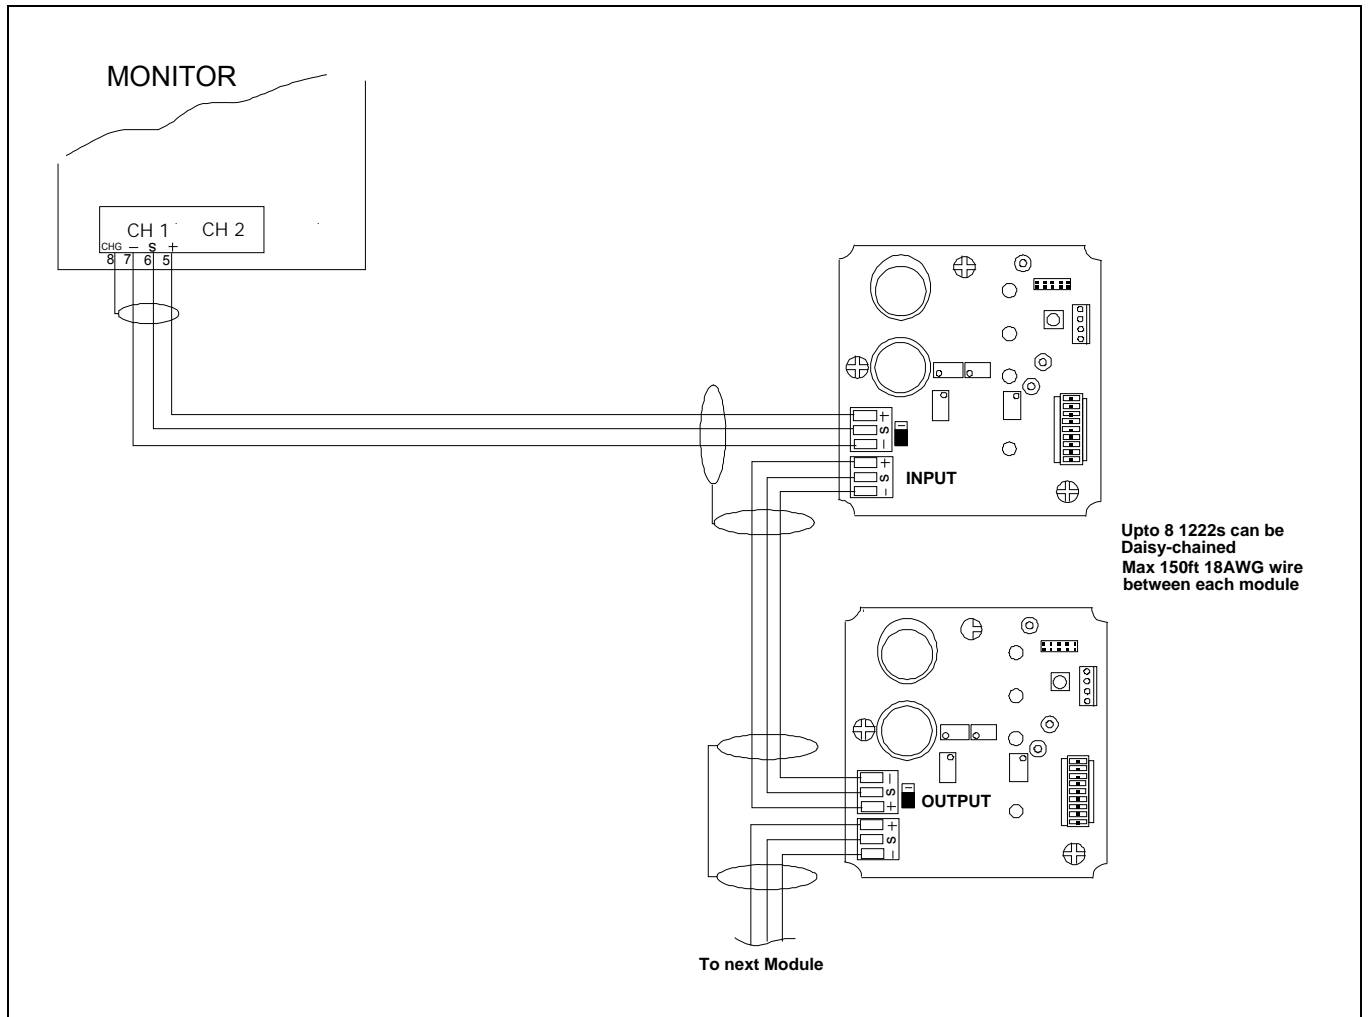
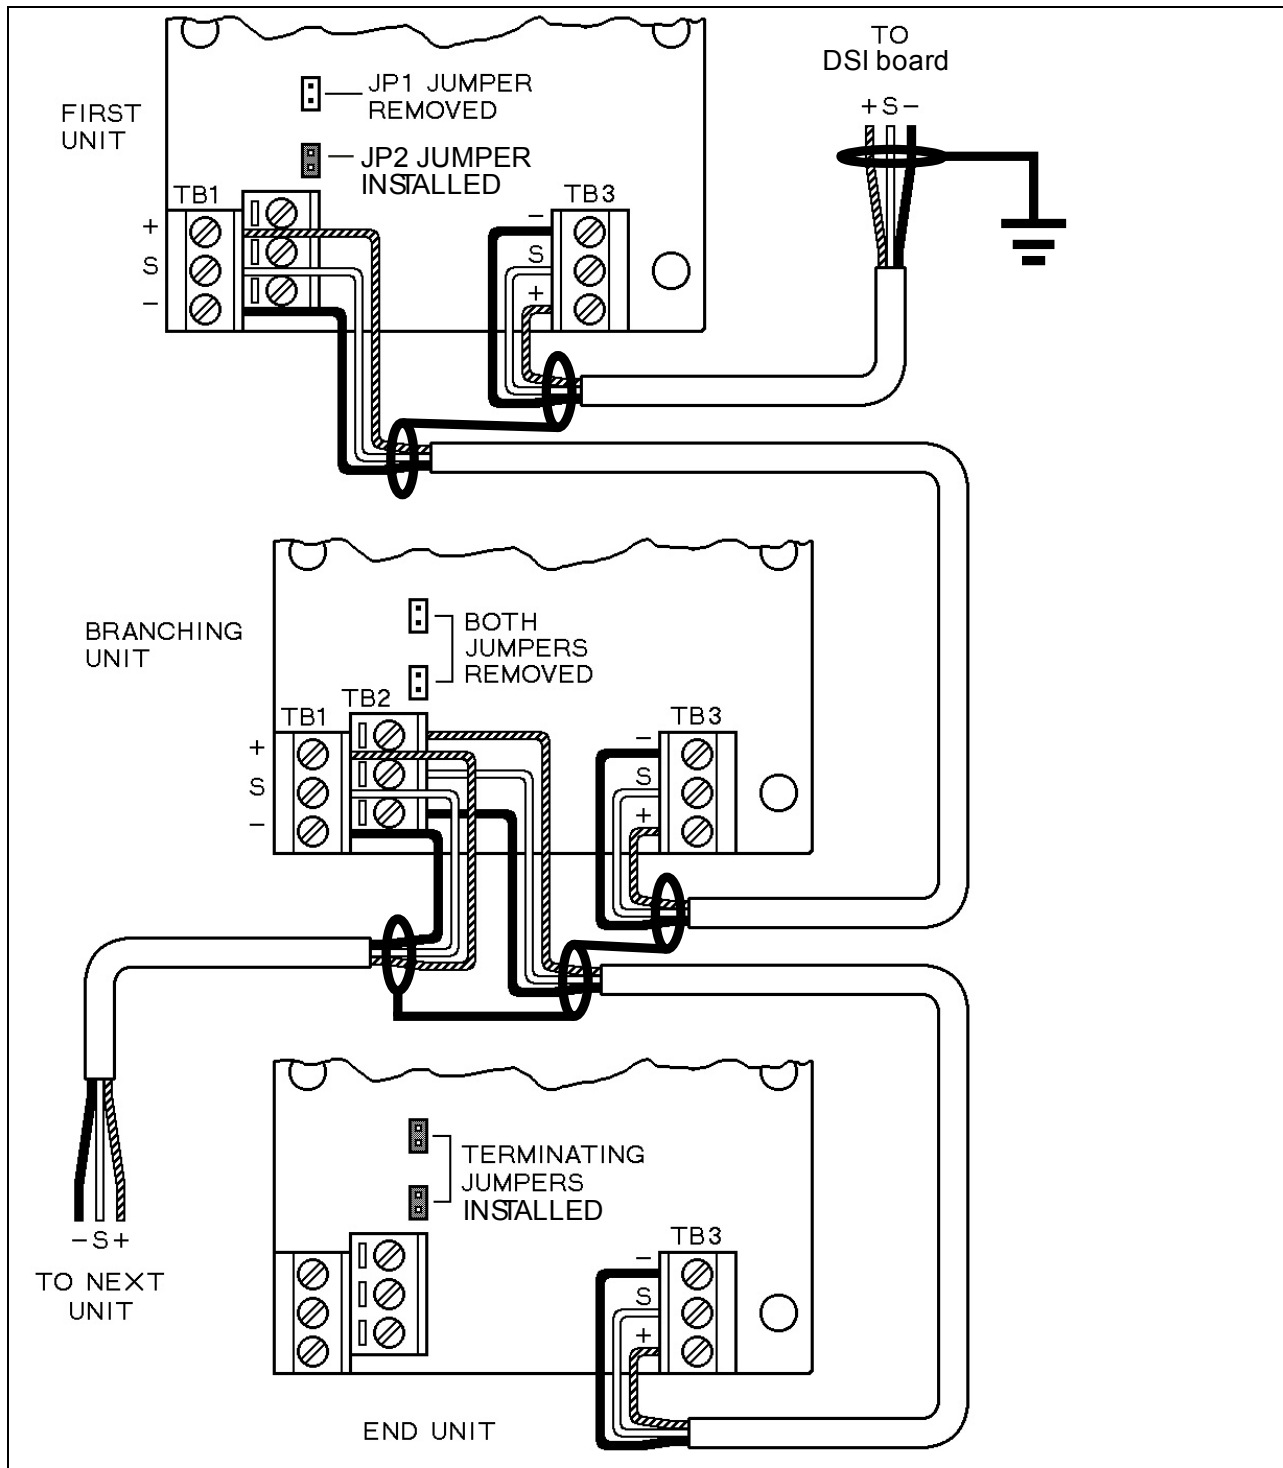

Figure 8-1 1222 Sensor Module Wiring
Figure 8-4 1225 Sensor Module Wiring and Termination
- Cable shielding must be grounded at the monitor end only. For Sensor modules ensure grounding continuity by tying grounding shields together see Figure 8-1. The cable shield at the end of a cable where the grounding is not propagated or tied to a landing point must be clipped short and wrapped with electrical tape to avoid electrical contact with any components in the housing.
- If you have connected 122X Sensor Modules to the monitor and are experiencing a fault you will need to check the inputs and output wiring and either the end of line termination jumpers or dipswitch settings. See Figure 8-1 to Figure 8-4.